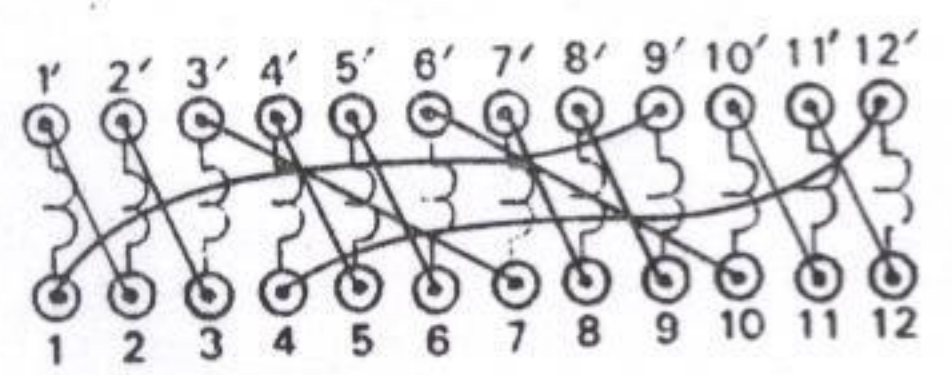

FIGURE 26: SINGLE-PHASE CAPACITOR MOTOR
1. Connect the Universal Machine to operate as a two-value capacitor motor as shown in Figure 26. The current coils of the meters MUST be shorted when starting.
2. Connect the Dynamometer to operate as a shunt generator as shown in Figure 26. Adjust its field rheostat to the maximum resistance (fully clockwise) position.